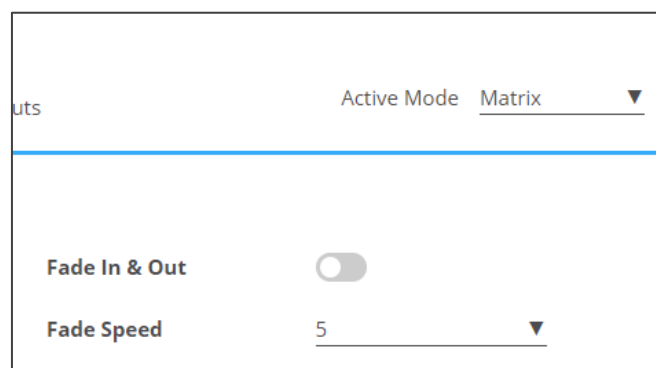

Figure 16: AV Settings Page – Matrix Mode Settings
1. In the Navigation List, click **AV Settings**. The AV Settings page appears (see Figure 16).
1. In the Navigation List, click **AV Settings**. The Matrix tab in the AV Settings page appears (see Figure 16).